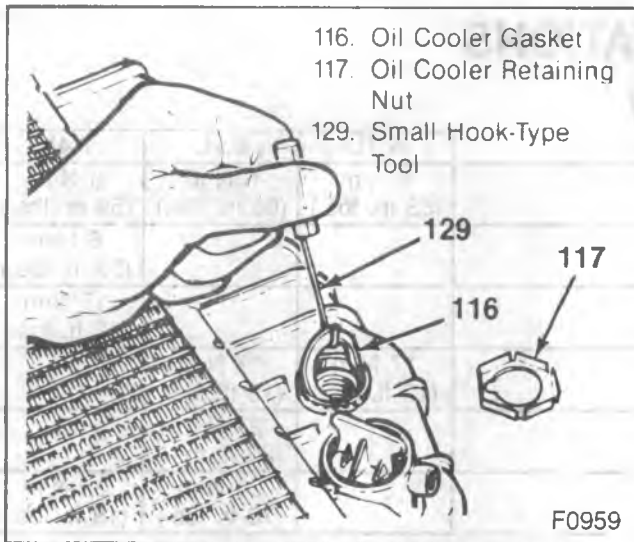

Figure 40—Removing the Oil Cooler Gasket
←→ Remove or Disconnect (Figure 40)
3. Press the oil cooler into the hole and remove the gasket using a small hook (figure 40).
→→ Install or Connect (Figure 40)